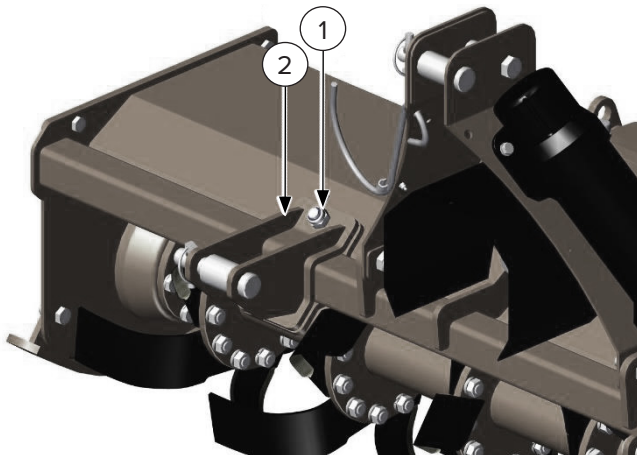

Figure 4
1. Loosen the bolts [Figure 4, Item 1].